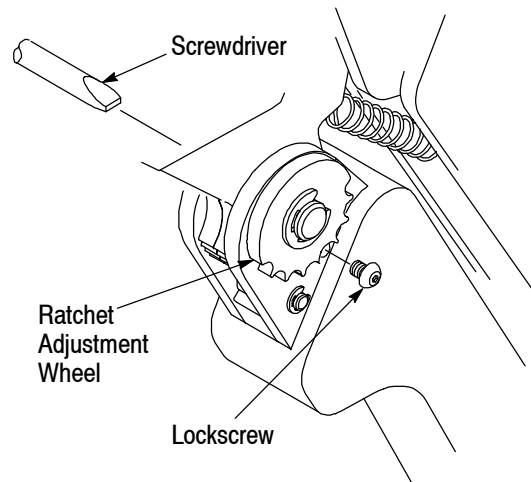

Figure 5
**5.1. Ratchet Adjustment (Figure 5)**